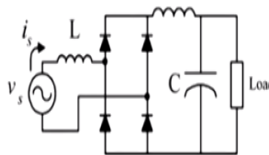

Fig.2: Single-phase Rectifier Circuit
- It is clear that the line currents of line commutated converters (example shown in Fig.2) are distorted by significant low order harmonics.